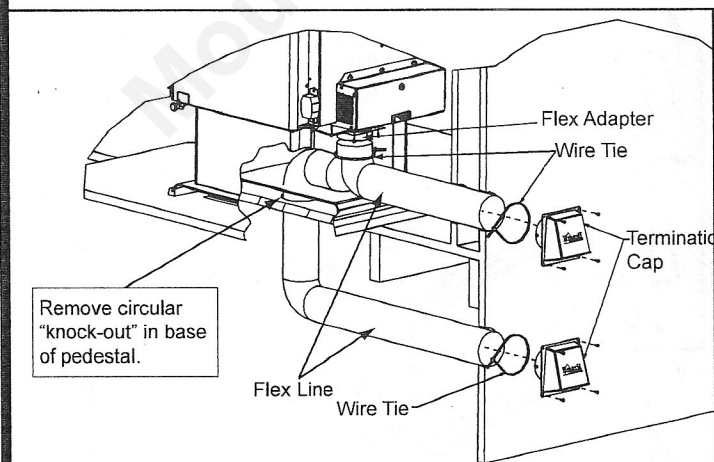
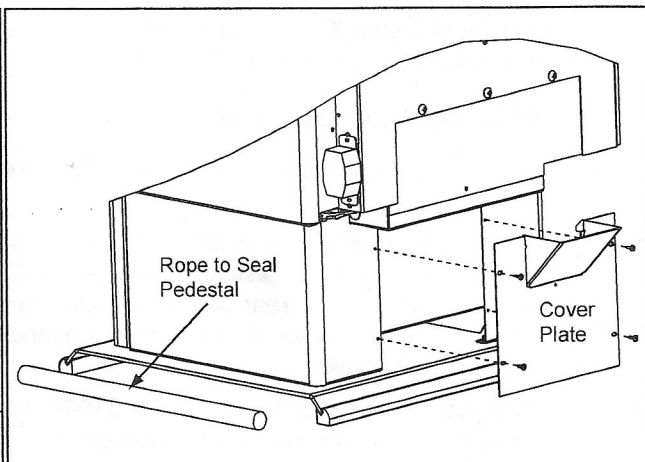

Figure 1 - Floor & Rear Installation - For All Stove Models
Figure 2 - Floor Installation Alternative
Included in SRV7033-041 (ACC Stoves Only): Rear cover plate, sealing rope and (4) screws (see Floor Installation Alternative Figure 2)
2. Using a #2 Phillips screwdriver attach the flex adapter to the stove using 4 screws. **Figure 1.**
In some instances you may not be able to install the flex pipe as show in **Figure 1**. If that is the case, you will need to order SRV7033-041 which includes a rear cover plate, sealing rope and screws as shown in **Figure 2**. The goal is to seal the pedestal so no room air can leak into the pedestal.